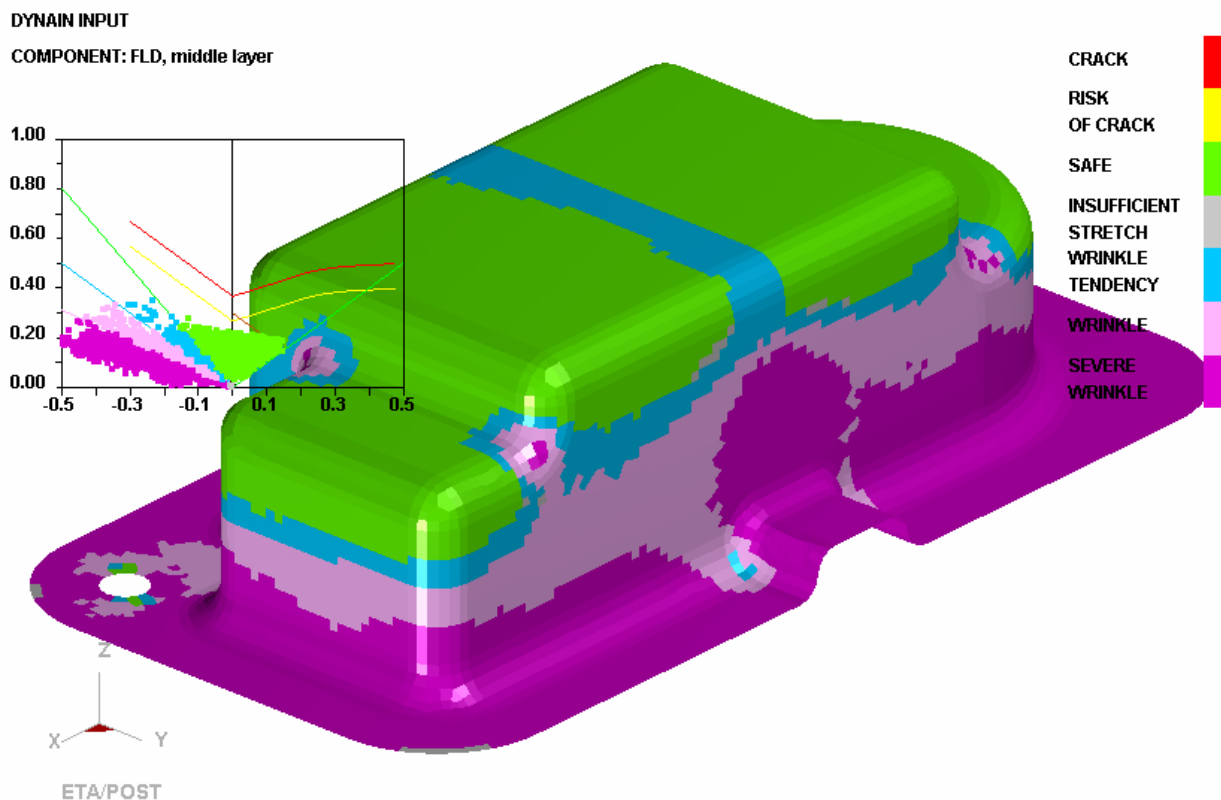

Figure 4.46: Illustration of FLD result
- 5) Click “**PLOT**” to plot the forming limit diagram of the finished component, as shown in the following figure 4.46.